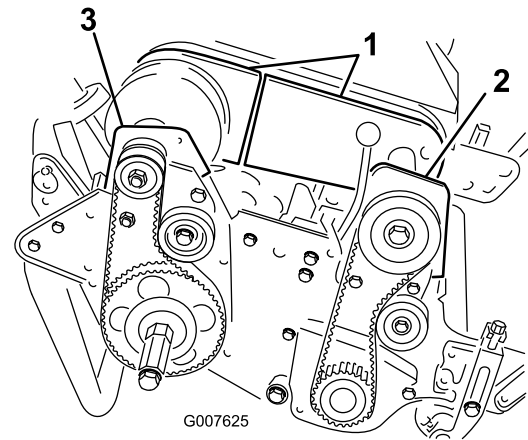

**Figure 41**
8. To push or pull the machine easier without starting the engine, adjust the belt guide (Figure 41, inset) as follows: